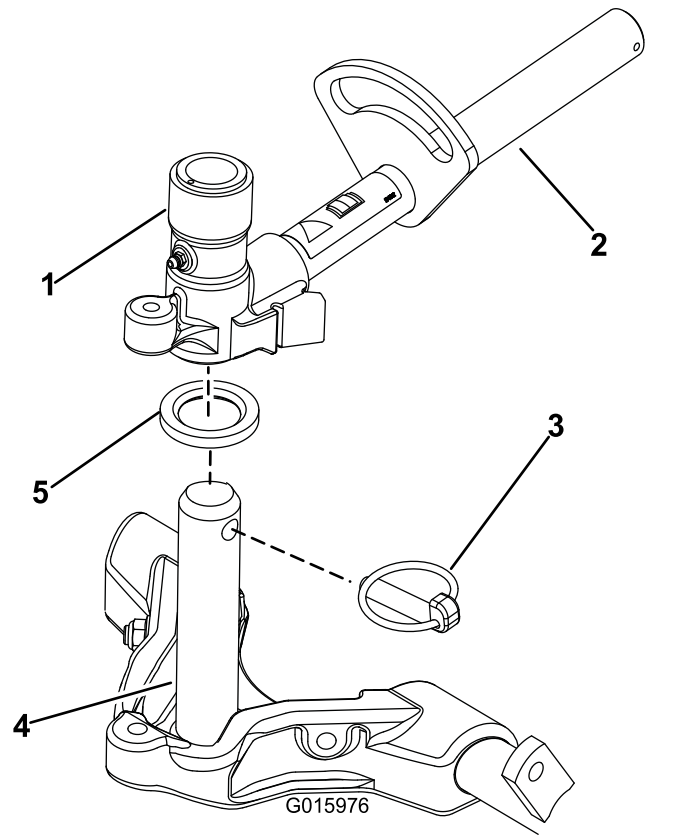

Figure 16
9. Coat the carrier-frame shaft with clean grease (Figure 16).
10. For the front cutting units, slide a cutting unit under the lift arm while inserting the shaft of the carrier frame up into the lift-arm pivot yoke (Figure 16). Make sure that the thrust washer is in position on the carrier frame shaft.
11. Secure the carrier-frame shaft to the lift-arm yoke with the klik pin (Figure 16).
- B. Insert the lift-arm yoke onto the carrier frame shaft (Figure 16).